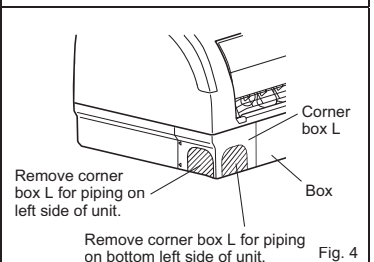
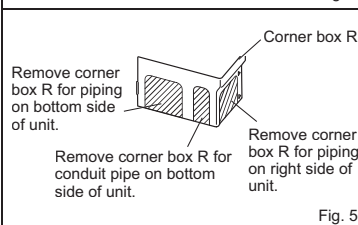

Fig. 4
Fig. 5
- 10) According to the piping direction, remove the shaded part of the corner box L (Fig. 4) or corner box R (Fig. 5). Reinstall electrical cover, corner box R and panel assembly.
- Insert the drain hose fully into the drain pan at the back right of the indoor unit. (Fig. 4)
- Insert the drain hose into wall hole sleeve (C), and attach the upper part of indoor unit onto the installation plate (1). Then, shift the indoor unit completely to the left to make placing the piping in the back of the unit easier.
- Cut out two pieces of cardboard from the shipping box (use any two pieces of the four pieces), roll each piece, hook them onto the back rib, and use them as spacer to lift the indoor unit. (Fig. 5)
- Connect the refrigerant piping with the extension pipe (B).
- Attach the lower part of the indoor unit into the installation plate (1).
- 4) Flaring work (Fig. 4, 5). Firmly hold copper pipe in the dimension shown in the table. Select A inch (mm) from the table according to the tool you use.